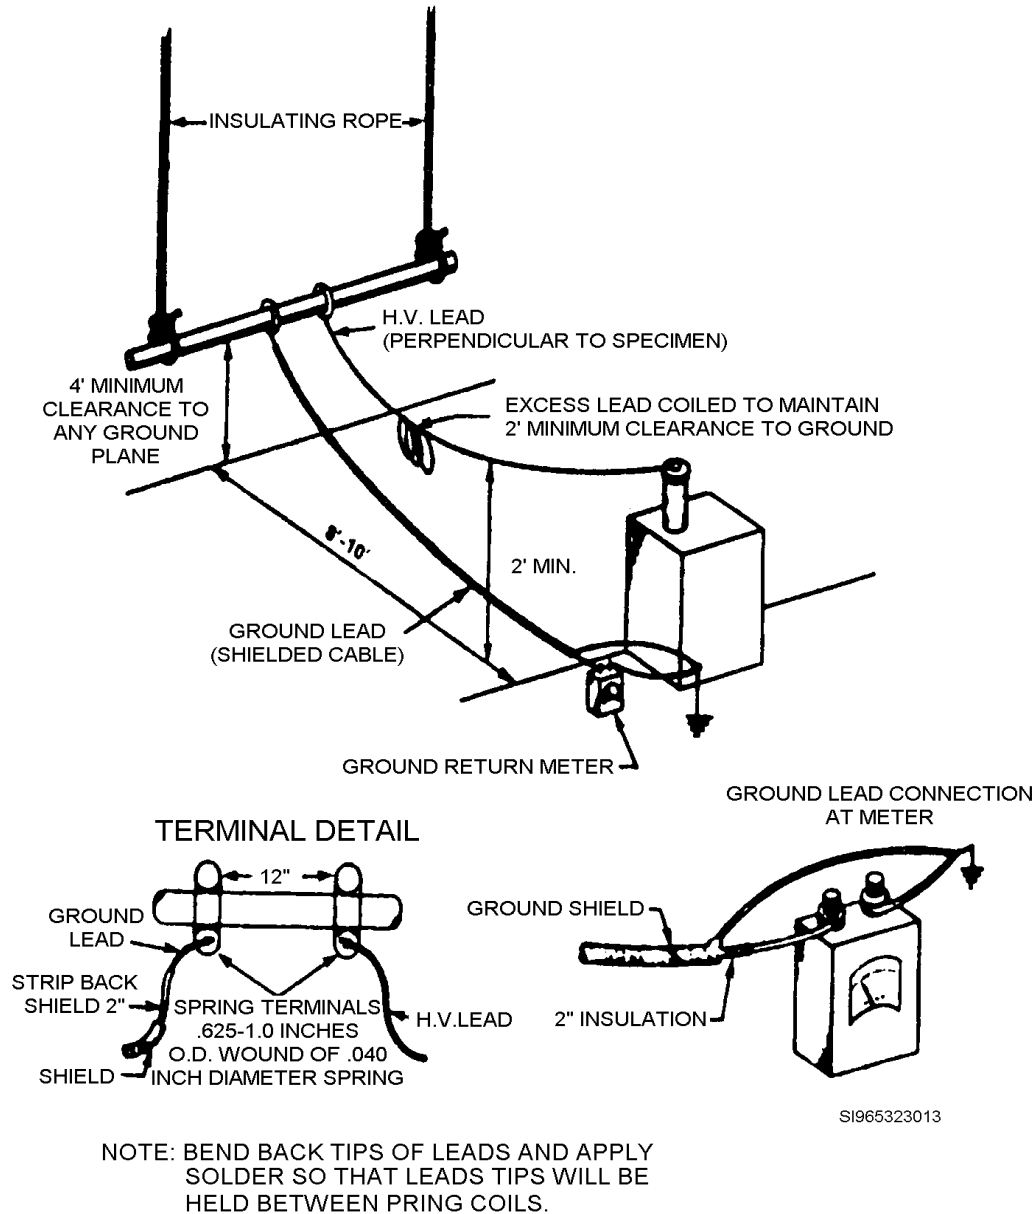

Figure 1, Typical set-up for high-voltage tests
Step 3: Sticks may be tested electrically using a DC hi-pot test set (Figure 1). See Figure 1 for typical set-up for test.